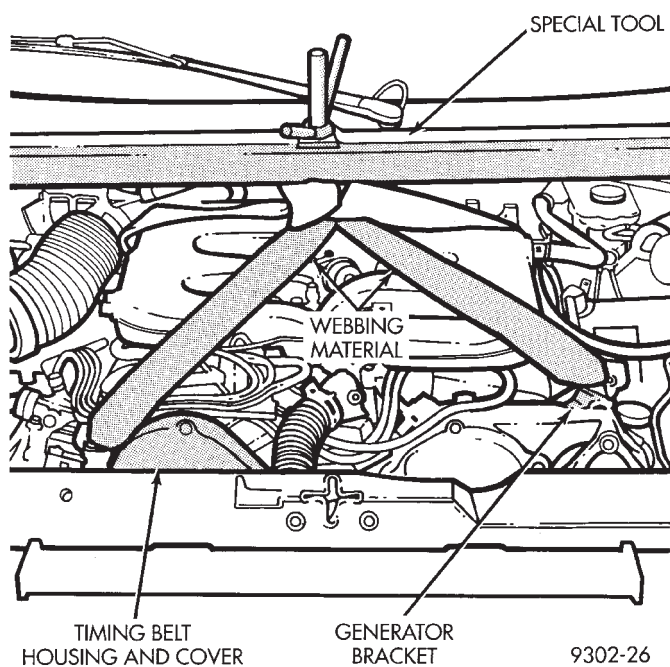
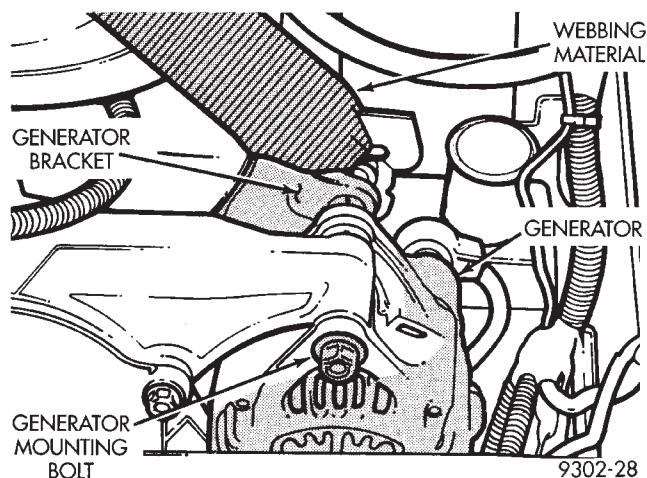

Fig. 7 Engine Supporting Fixture Installed 3.5 Ltr.
Fig. 9 Front Engine Support Attachment To Generator Bracket
(1) Mount Fixture, Engine Support Special Tool 7137 or equivalent across engine compartment (Fig. 7). Using nylon webbing material such as seat belt material or equivalent, mount it to the following locations on the 3.5 ltr. engine.
(2) Remove bolt attaching timing belt housing to front of engine assembly (Fig. 7 and 8). Install webbing material hook on timing belt housing attaching bolt, install bolt and tighten (Fig. 7 and 8).
(3) Remove generator to generator mounting bracket attaching nut and bolt (Fig. 9). Install webbing material hook on generator mounting bolt, re-install and tighten original nut and bolt (Fig. 9).
(4) Mount remaining pieces of webbing material to back of right and left cylinder head using the threaded hole on back of cylinder heads. Using a bolt of the correct thread size and length, install webbing hook on bolt. Then install bolt into threaded hole on back of cylinder heads and tighten bolt.
(5) Securely attach pieces of webbing material to hook on engine holding fixture (Fig. 7). Tighten hook on engine holding fixture until all slack is removed from all 4 pieces of webbing material.